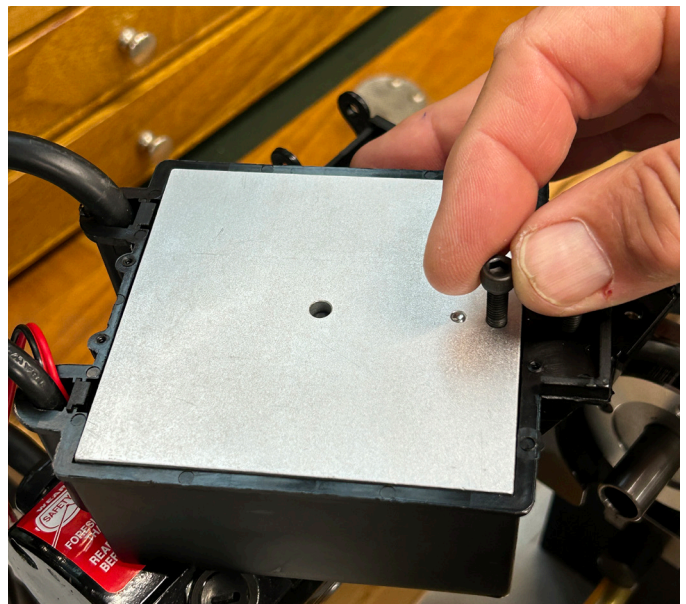

FIGURE 7
E. The easiest way to remove the speed control from the housing is to thread a 10-32 screw into the threaded hole on the bottom of the control. Then use that to help you to wiggle the control free from the housing (see Figure 7).